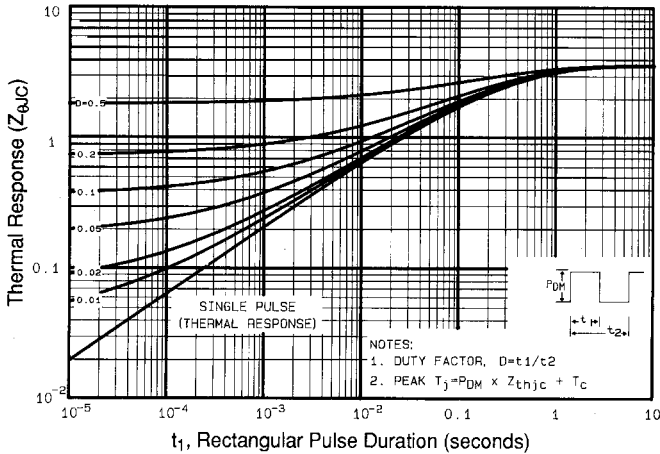

Fig 11. Maximum Effective Transient Thermal Impedance, Junction-to-Case
- ① Repetitive rating; pulse width limited by max. junction temperature (See Figure 11) ③ $I_{SD} \leq 15A, di/dt \leq 140A/\mu\text{s}, V_{DD} \leq V_{(BR)DSS}, T_J \leq 175^\circ\text{C}$ ⑤ $t=60\text{s}, f=60\text{Hz}$